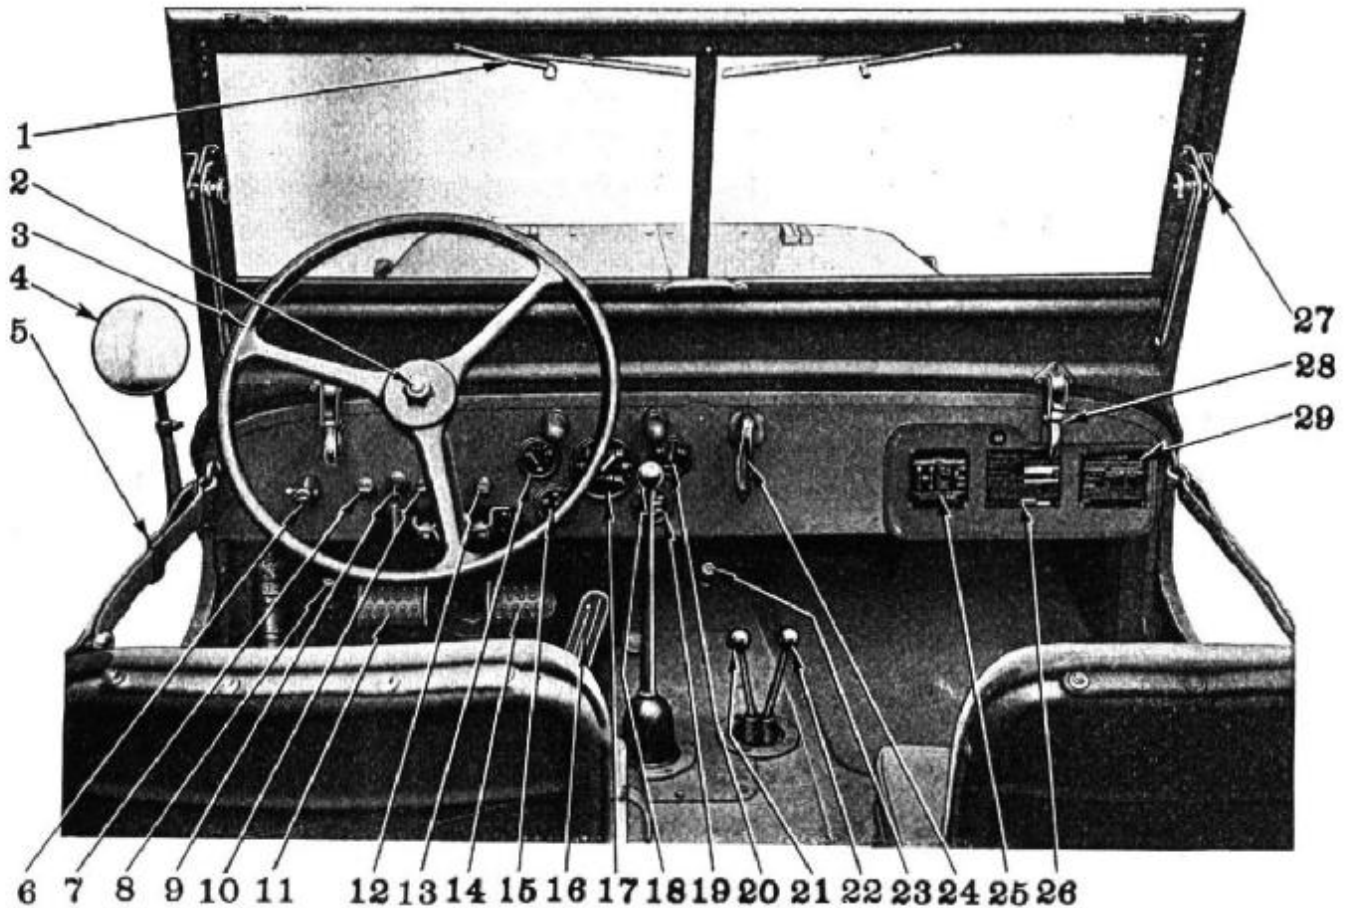

FIG. 1—CONTROLS
### Ignition Switch—No. 9, Fig. 1
### Light Switch—No. 6, Fig. 1
### Panel Light Switch—No. 12, Fig. 1.
### Head Lamp Beam Control Switch—No. 8, Fig. 1
### Starter Switch—No. 23, Fig. 1
### Hand Throttle—No. 10, Fig. 1
**Carburetor Choke Control—No. 7, Fig. 1**
**Oil Gauge—No. 15, Fig. 1**
**Ammeter—No. 20, Fig. 1**
**Fuel Gauge—No. 13, Fig. 1**
**Temperature Indicator—No. 19, Fig. 1**
**Speedometer—No. 17, Fig. 1**
The nomenclature plate identifies the vehicle and gives the manufacturer's model and serial number, date of delivery, recommended fuel and lubricating oil. Service publication numbers are also given for reference. (When ordering parts be sure to give serial number). See No. 26, Fig. 1.
**Caution Plate—Fig. 3 & No. 29, Fig. 1**